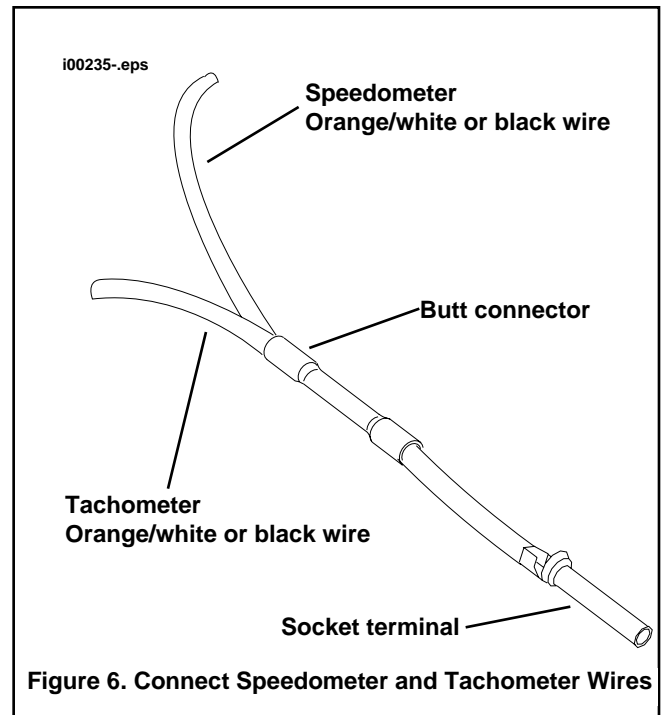

Figure 6. Connect Speedometer and Tachometer Wires
3. See Figures 6 and 2. Use one of the butt connectors from the kit and connect the ground leads as shown. Refer to "SEALED BUTT CONNECTORS" in the 1994 (or later) XLH, FXD or FLT/FXR Service Manuals for complete procedure.